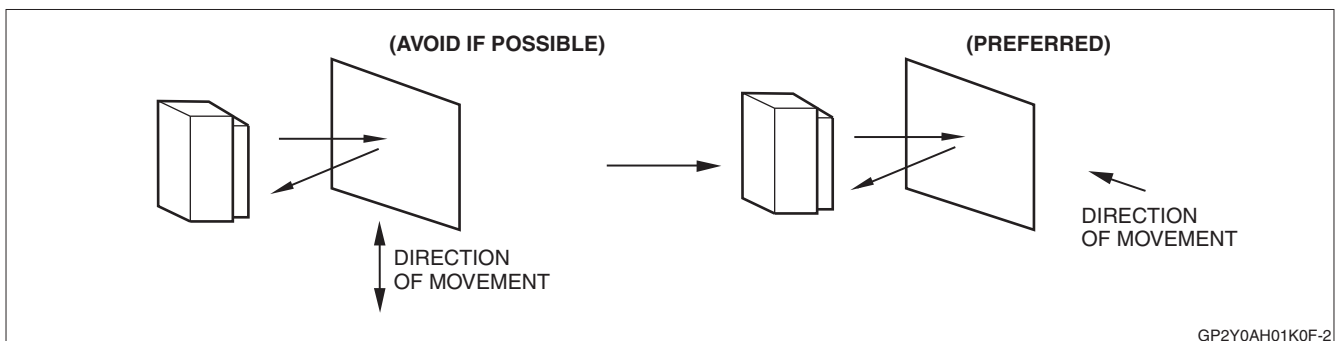

Figure 6. Proper Alignment to Moving Surfaces
- If a prominent boundary line exists in the surface being measured, it should be aligned vertically to avoid measurement error. See Figure 6 for further details.
- When measuring the distance to objects in motion, align the sensor so that the motion is in the horizontal direction instead of vertical. Figure 6 illustrates the preferred alignment.